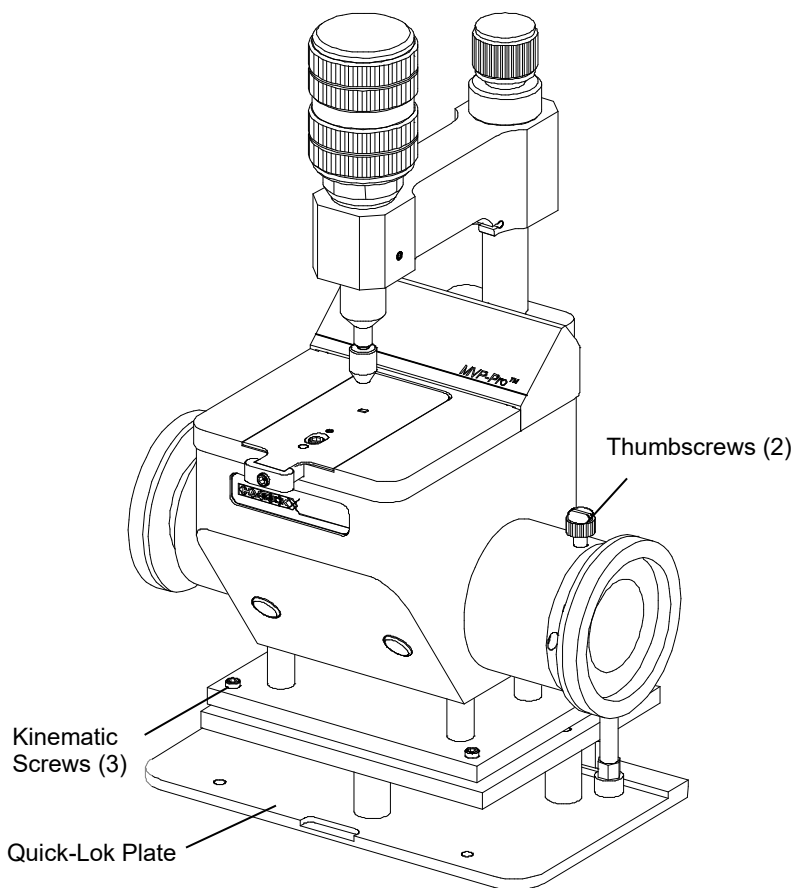

Figure 5 • Adjusting the Kinematic Screws
- Using the supplied 3/32” ball driver, adjust the three kinematic screws (Figure 5) one by one. Move systematically from screw to screw, optimizing the “energy” at each before moving to the next.